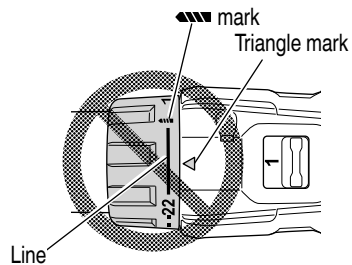

Fig. 13
- Do not use with the clutch dial set at the line between the number “22” and the drill mark “”. Doing so may cause damage (See Fig. 13).